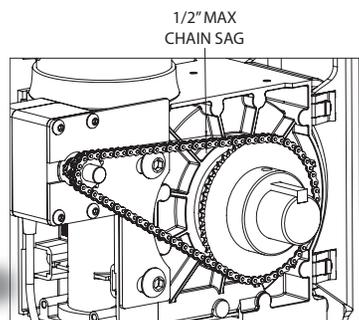

FIG 7B
- Check chain tension, max sag is 1/2", **Fig 7B**.